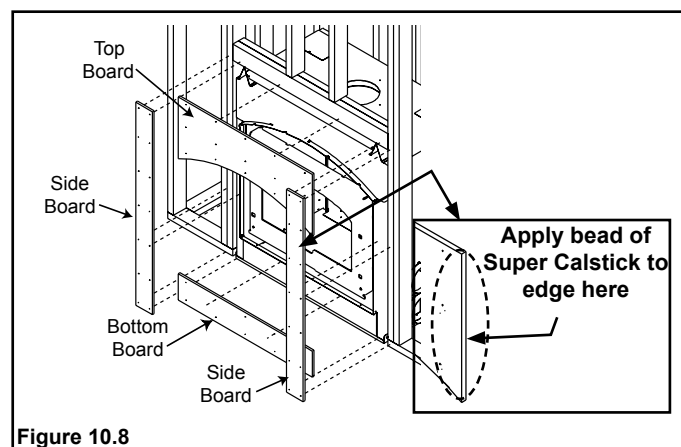

Figure 10.8
4. Using the Super Calstick, run a light bead (1/8 in. minimum) on the butt edges of the top board. See Figure 10.8